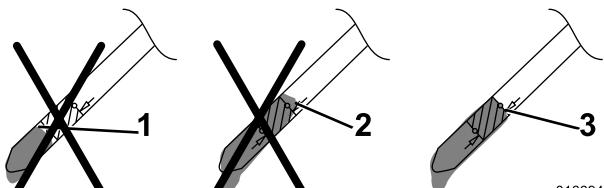

Figure 7
5. Remove the dipstick and read the oil level on the dipstick; refer to Figure 7.
- If the oil level is too low, add a small amount of oil **slowly** to the oil-fill tube, and then repeat steps 3 through 5 until the oil level is correct as shown in Figure 7.
- If the oil level is too low, add a small amount of oil **slowly** to the oil-fill tube, and then repeat steps **3** through **5** until the oil level is correct as shown in Figure 7.